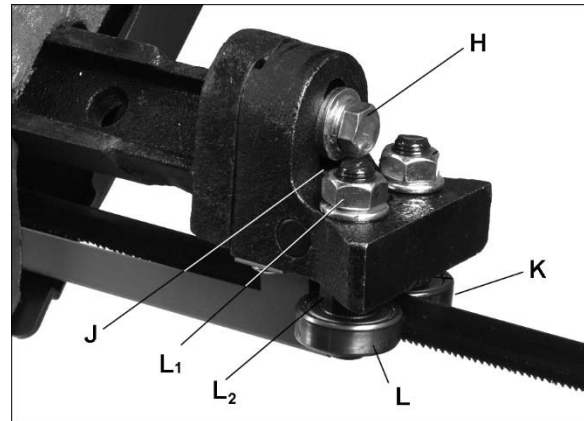

Figure 7-4
2. Loosen bolt (H, Figure 7-4) and adjust assembly so that rear bearing (J) is slightly set back from back edge of blade. Also, inside bearing (K) should very lightly contact blade. Tighten bolt (H).
3. Inside bearing (K) is fixed. Outside bearing (L) rotates on an eccentric shaft. Loosen top nut (L1) and rotate bottom nut (L2) to adjust eccentric bearing to very slight distance away from blade.
3. If there is a gap, loosen bolt (H, Figure 7-4) on each blade guide assembly and rotate blade guide assembly until gap is eliminated between square and ruler.
4. Retighten bolts (H, Figure 7-4).